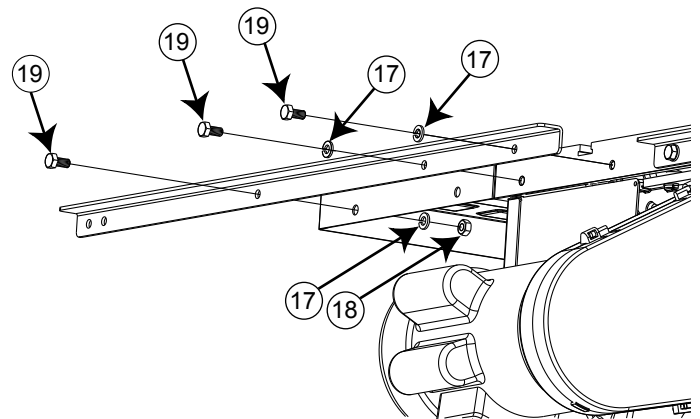

Fig. 6
- Repeat the same procedure to mount the right rear rail (the longer rail) to the rear of the table and to the right extension wing. Again use three M8 x 16 hex screws, three M8 lock washers, and one M8 hex nut (see Fig. 6). Hand tighten the hex screws; do not fully tighten them. The right rear rail should extend beyond the right extension wing.